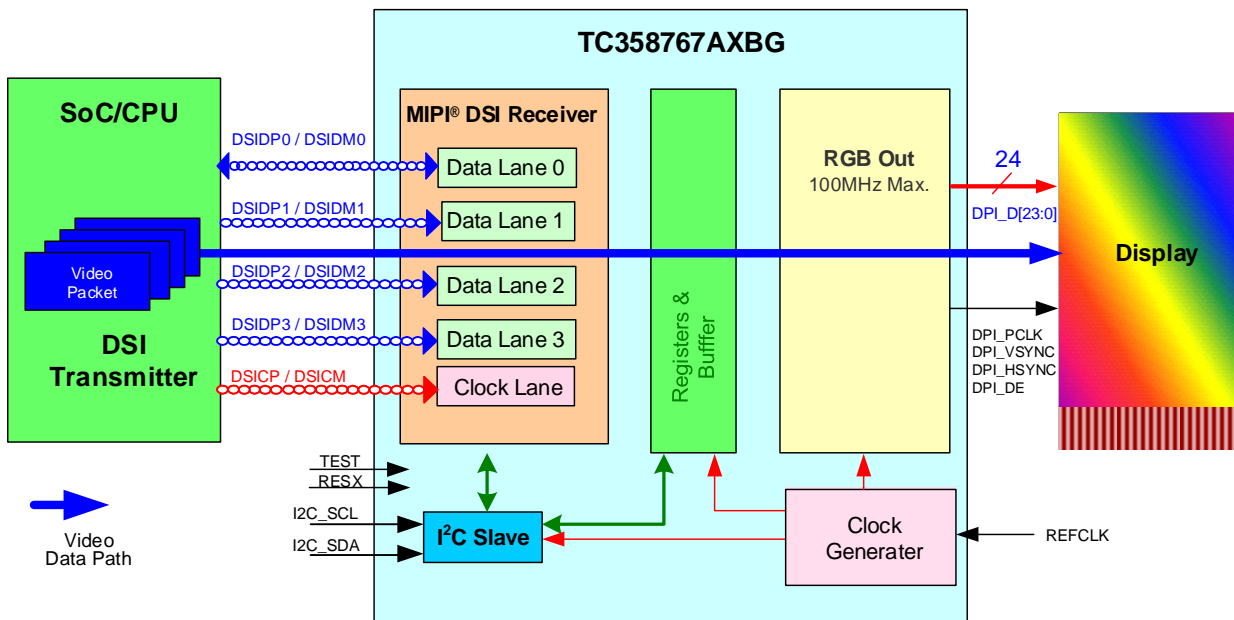

Figure 1.3 System Overview with TC358767AXBG in MODE_S2P Configuration
- **Mode_S2P:** A system configuration where TC358767AXBG may typically be used is shown in Figure 1.3. In this mode, DisplayPort™ output is not used and the chip rather behaves as a DSI to RGB convertor. In this system, TC358767AXBG could be connected to a single display. In this configuration, the TC358767AXBG can support displays with resolution up to WXGA (1280×800 or 1366×768). Max. output PCLK is 100MHz. Video stream source is from DSI Host.